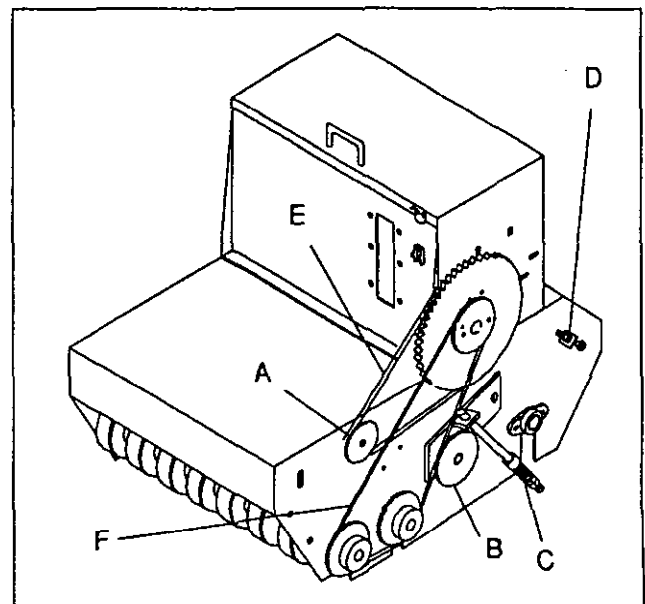

Figure 6
The depth of the blades is determined by the blade depth adjustment bolt (D, Fig. 6). Loosen the hex nut then turn bolt clockwise to allow blades to penetrate deeper. The blades are lowered when the transport wheels are pivoted up, activated by the elevation lever (A) that is connected to the engage handle.
DISC & SEED CHAIN ADJUSTMENT (Fig. 6)